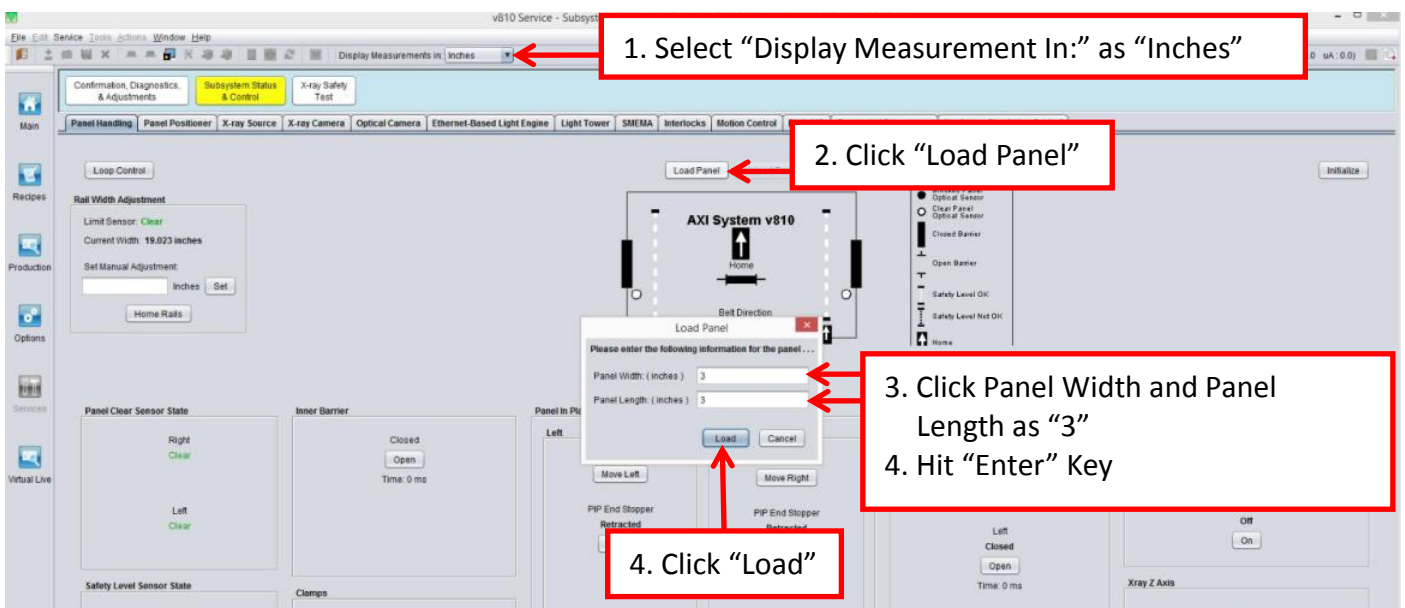

Figure 16 Panel Handling (Load Panel)
- After Initialization complete, select “Display Measurement In: Inches”. Click “Load Panel”. Enter “Width” and “Length” as 3 inches. Click “Load” as shown in Figure 16